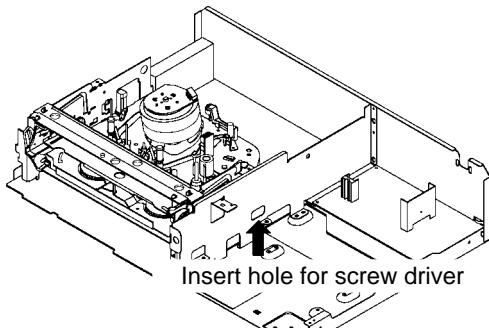
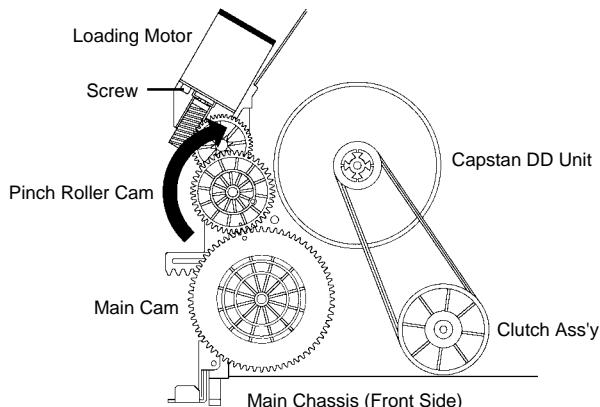

Fig. 1
Fig. 2
1. Remove the Top Cabinet, Front Cabinet and DVD Block and the Fig. 1 below can be seen.
**(Refer to item 1 of the DISASSEMBLY INSTRUCTIONS.)**
**(Refer to Fig. 2)**